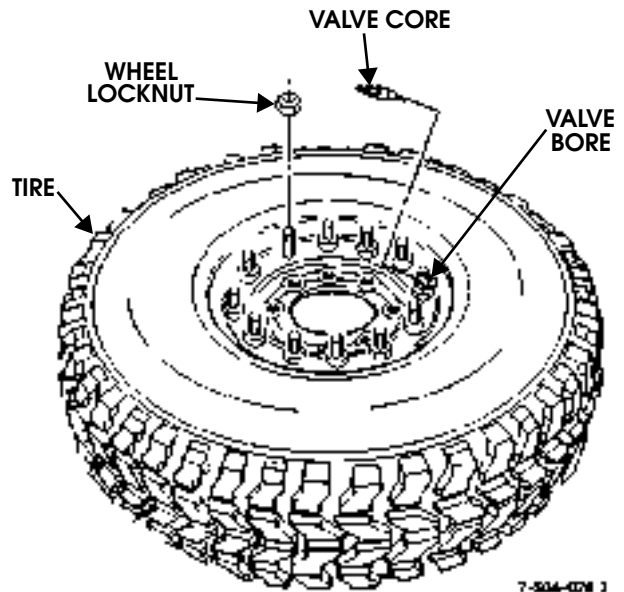

Figure 6-18: Valve Core and Valve Bore
3. Remove valve core from valve bore and deflate tire. Run a wire through valve bore to ensure it is not plugged (Figure 6-18).